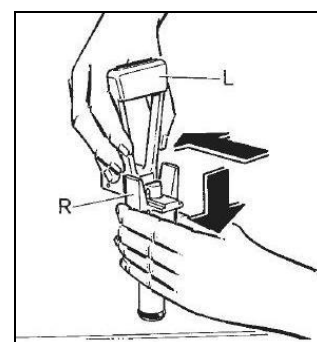

Fig. 4
- **D**isassemble the dispensing tap by keeping the indicated part (R) pressed down and slipping off the dispensing lever (L) (see figure 4).